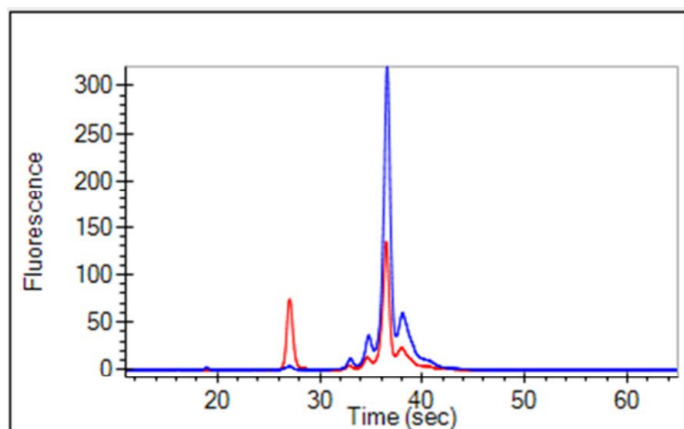

Figure 17. Dye Solution Comparison
- 1 The Dye solution may have been left at room temperature for too long. The Dye solution should be used immediately (begin dispensing within 5 minutes of mixing with N,N-dimethylformamide). Extended incubation of the Dye solution at room temperature will degrade the dye and decrease the amount of dye that can label the sample. Figure 17 shows a sample where the dye solution was used immediately (blue trace) and a sample where the dye solution was older (red trace). When the Dye solution is used immediately, the dye peak is shorter and the mAb peaks are taller (blue trace).